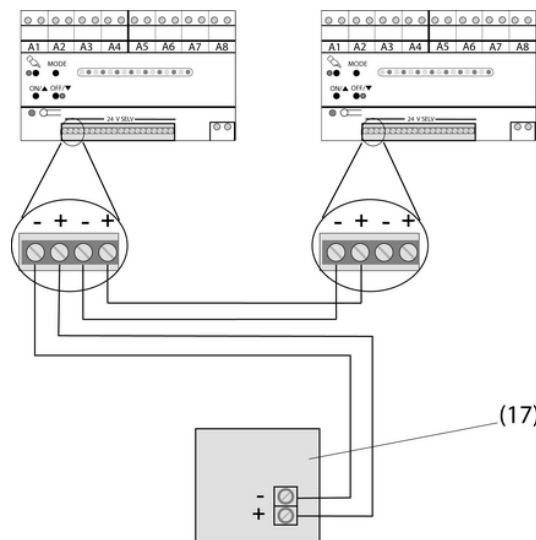

Figure 10: Wiring example for connecting one sensor module or pushbutton module to two relay stations
- Connect the sensor module or push-button module to two relay stations according to the connection example (figure 10).